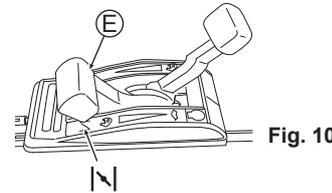

Fig. 10
3. Set Throttle lever (E) to Choking "⌂". (See Fig. 10) (The engine can start by setting the lever at "⌂" when it is warm.)